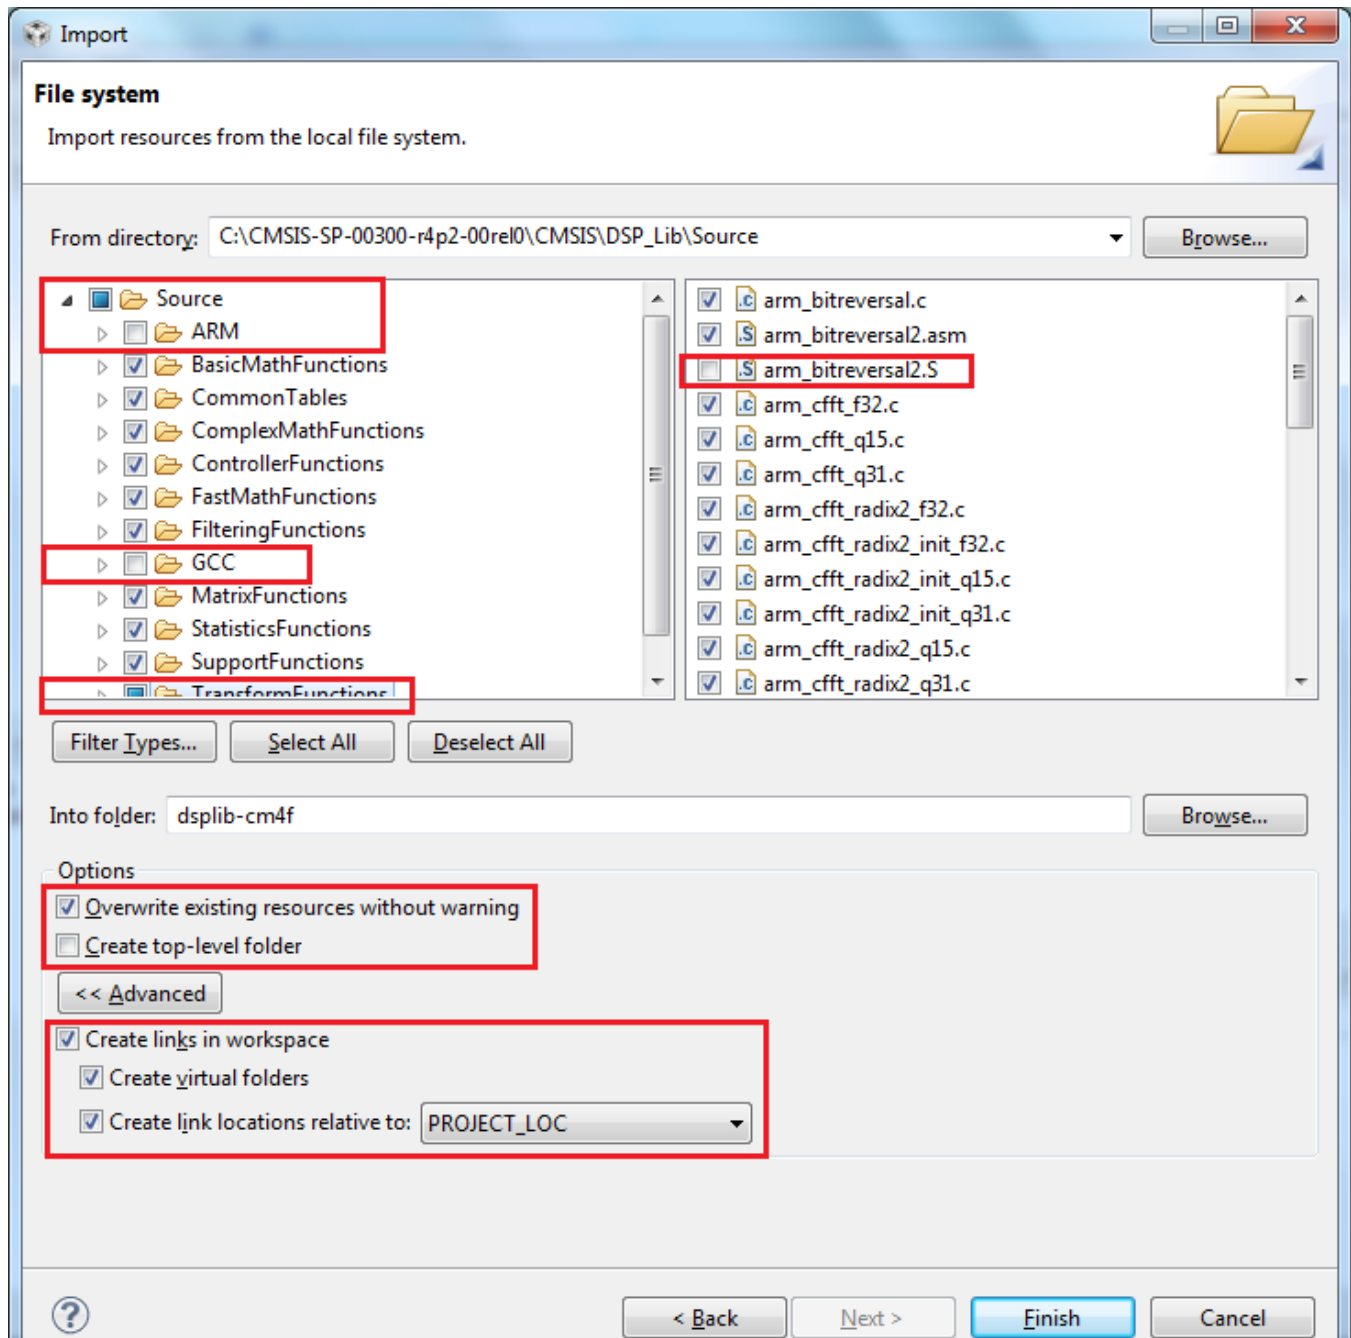

Figure 3. Importing the DSP_Lib Source Code
13. Verify that the drop-down menu of environment variables is set to PROJECT_LOC (see Figure 3). If there are no variables listed in the drop-down menu, select *Edit Variables...* and add a variable to represent the location of the dsplib project file.